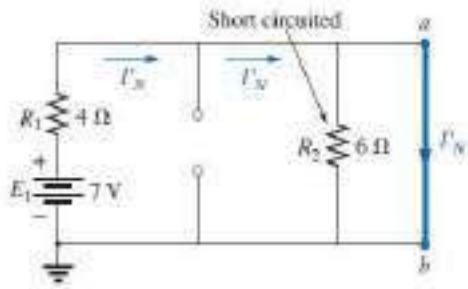

FIG. 9.81
Step 4: (Using superposition) For the 7 V battery (Fig. 9.81),